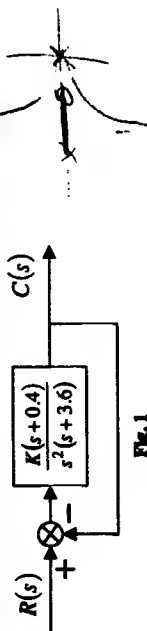

Fig. 1
1. For the system shown in Fig. 1, sketch the root locus showing all the pertinent characteristics.